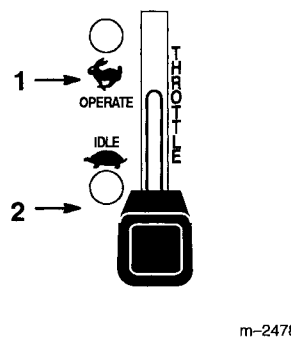

Figure 5
1. Move the throttle lever to "SLOW" (Fig. 5).